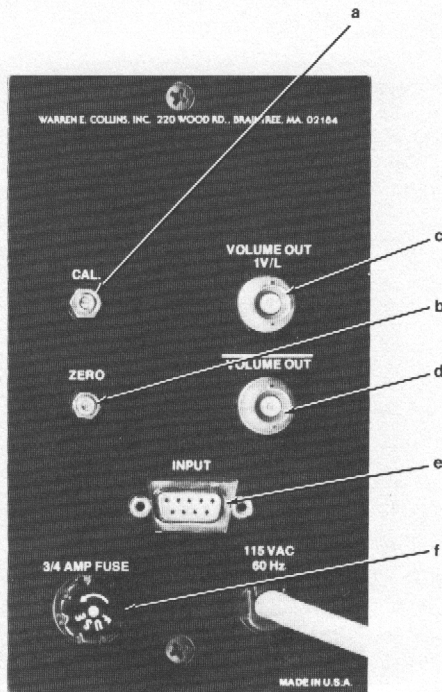

Figure 7 - Volume Module - Rear Panel
**A.4. Volume Module - Rear Panel (Figure 7)**
NOTE: The following controls are in addition to those found on the Volume Module Rear Panel (see Section IV.A.4 and Figure 7).